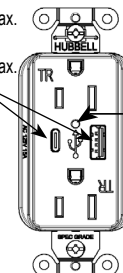

Fig. 5
- (1) A & (1) C USB port receptacle (Fig.5)
- (1) A & (1) C port USB prise (Fig.5)
- (1) A & (1) C puerto USB tomacorriente (Fig.5)